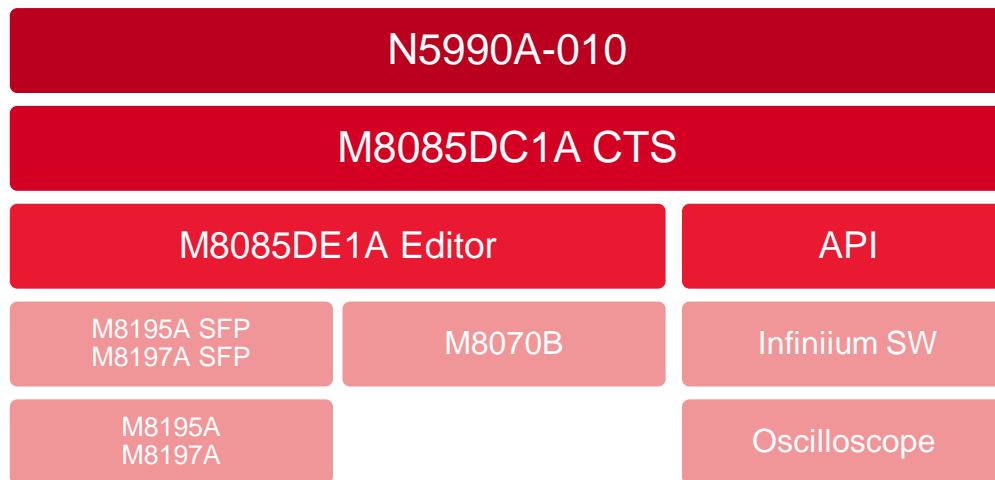

Figure 2. Architecture of application specific solutions within the M8000 System.
The M8000 Series of BER test solutions for digital RX characterization with its modular AXI-HW architecture and its Plug In SW-concept allows composing the required BERT consisting of Pattern Generator (PG) and Error Detector (ED) building blocks using a Keysight M8195A AWG as PG and the M8070B System Software. The M8070B SW furthermore hosts the application specific test automation SW Plug-Ins M8085DC1A and M8085DE1A as depicted below in Figure 2 below, which in turn hosts the IBERRReader interface providing the connection to the error detector that needs to be provided by the DUT.